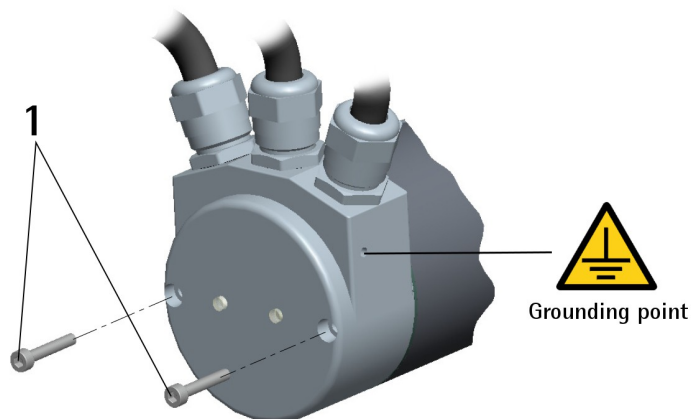
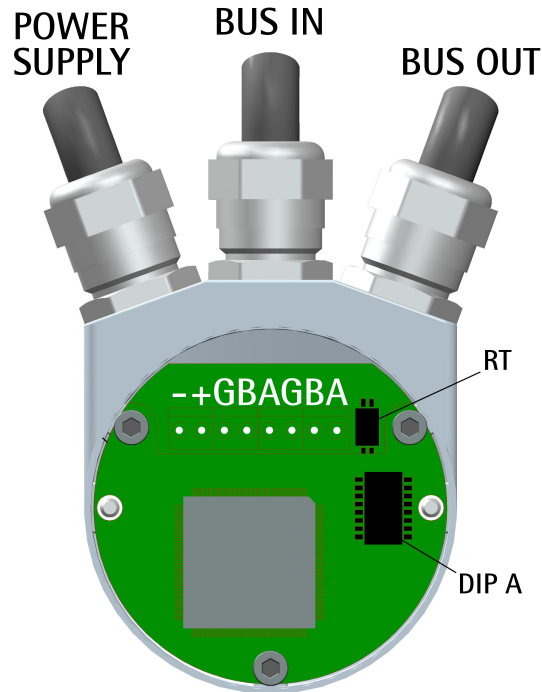

Figure 2
Figure 3
4.1 Encoder connection cap (Figure 1 and Figure 2)
To remove the connection cap loosen the two screws **1** (Figure 2). Please be careful with the internal connector.
4.2 Profibus encoder with PGs: PG version (Figure 2 and Figure 3)
4.3 Profibus encoder with M12 connectors: M12 version (Figure 2 and Figure 4)
4.4 Ground connection (Figure 2)
Minimize noise by connecting the shield and/or the connector housing and/or the enclosure to ground. Make sure that ground is not affected by noise. The connection point to ground can be situated both on the device side and on user's side. The best solution to minimize the interference must be carried out by the user. You are advised to provide the ground connection as close as possible to the unit. We suggest using the ground point provided in the connection cap (see Figure 2, use one TCEI M3 x 6 cylindrical head screw with two tooth lock washers).
4.6 Node Address: DIP A (Figure 3 and Figure 4)
After having set the device address, please check the position of the bus termination DIP switch (see the "4.8 RT Bus termination resistor (Figure 3 and Figure 4)" section on page 31).
4.8 RT Bus termination resistor (Figure 3 and Figure 4)